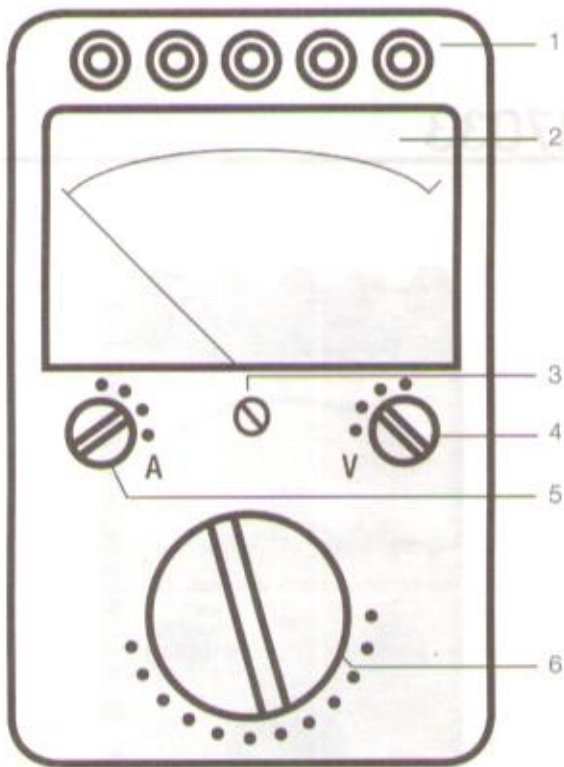

Fig. 1
There are five connection terminals (1, figure 1), arranged on the front of the power meter, two for current connection with the markings I\* (1) and I (3) and three for voltage connection with the markings L1 (2), L2 (5) and L3 (8). They are contact-protected.
One selector switch for the voltage ranges (4, figure 1), with the four ranges 50 V, 100 V, 250 V and 500 V.
One selector switch for the current ranges (5, figure 1), which can be switched in four ranges 0.25 A, 1 A, 5 A and 25 A. One function switch (6, figure 1) featuring 12 positions.